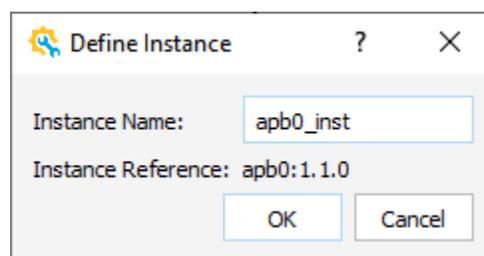

Figure 2.44. Define Instance Dialog Box
- Right-click on the desired component and choose **Instantiate**. The Define Instance dialog box (Figure 2.44) open.